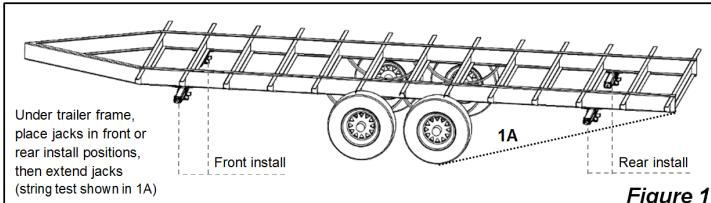

Figure 1
2. Position each Husky Scissor Jack under the trailer frame where it will be installed. Choose front or rear installation as shown in **Figure 1**.